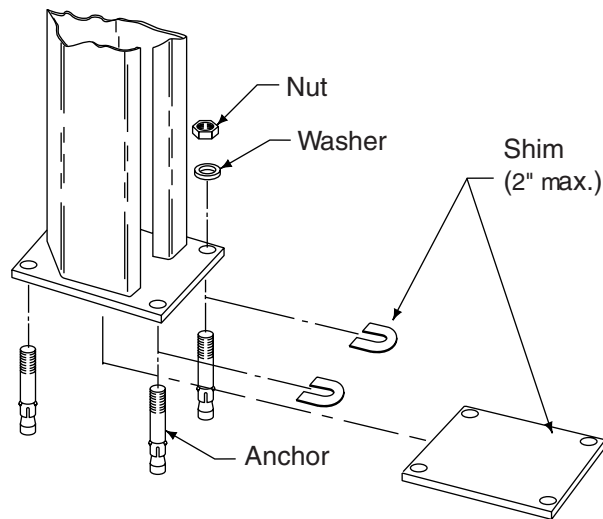

Fig. 12
- Use shims provided to shim column base to plumb columns, first fore and aft then side to side. Use a 4' level to check plumb of columns. Recheck $\frac{5}{16}$ " gap between column and yoke with yoke spacer tool. Maximum shim thickness is 2"; Fig. 12. If more shimming is required, consult factory for different shim package including longer anchor bolts. Drill four $\frac{5}{8}$ " diameter holes through concrete floor using base holes as guide, Fig. 11. Repeat for other columns.